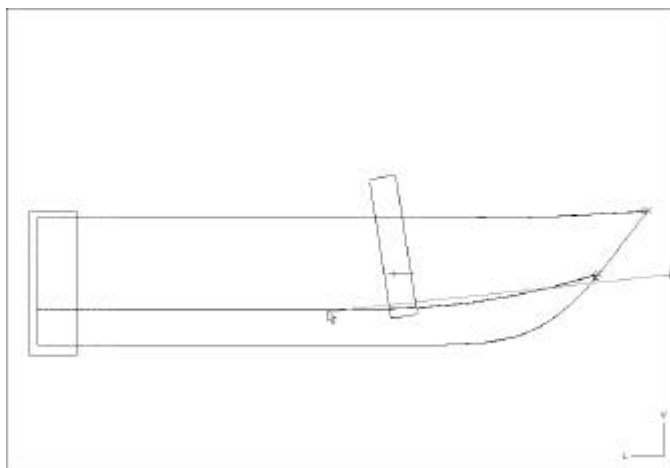

Figure 1-17: Moving the Transom surface
**Tip:** Remember that the displacement of the object originates at it's base point – which in this case is at the origin. (See figures 1-17 and 1-18.)